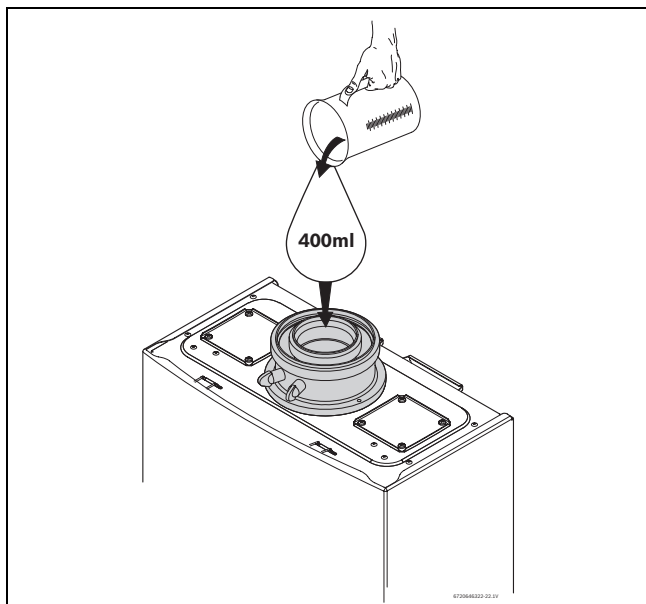

Fig. 45 Filling the condensate trap at start up
- ▶ Fill the condensate trap by pouring approximately 400ml of water into the flue gas connector on the top of the appliance (→ Fig. 45).